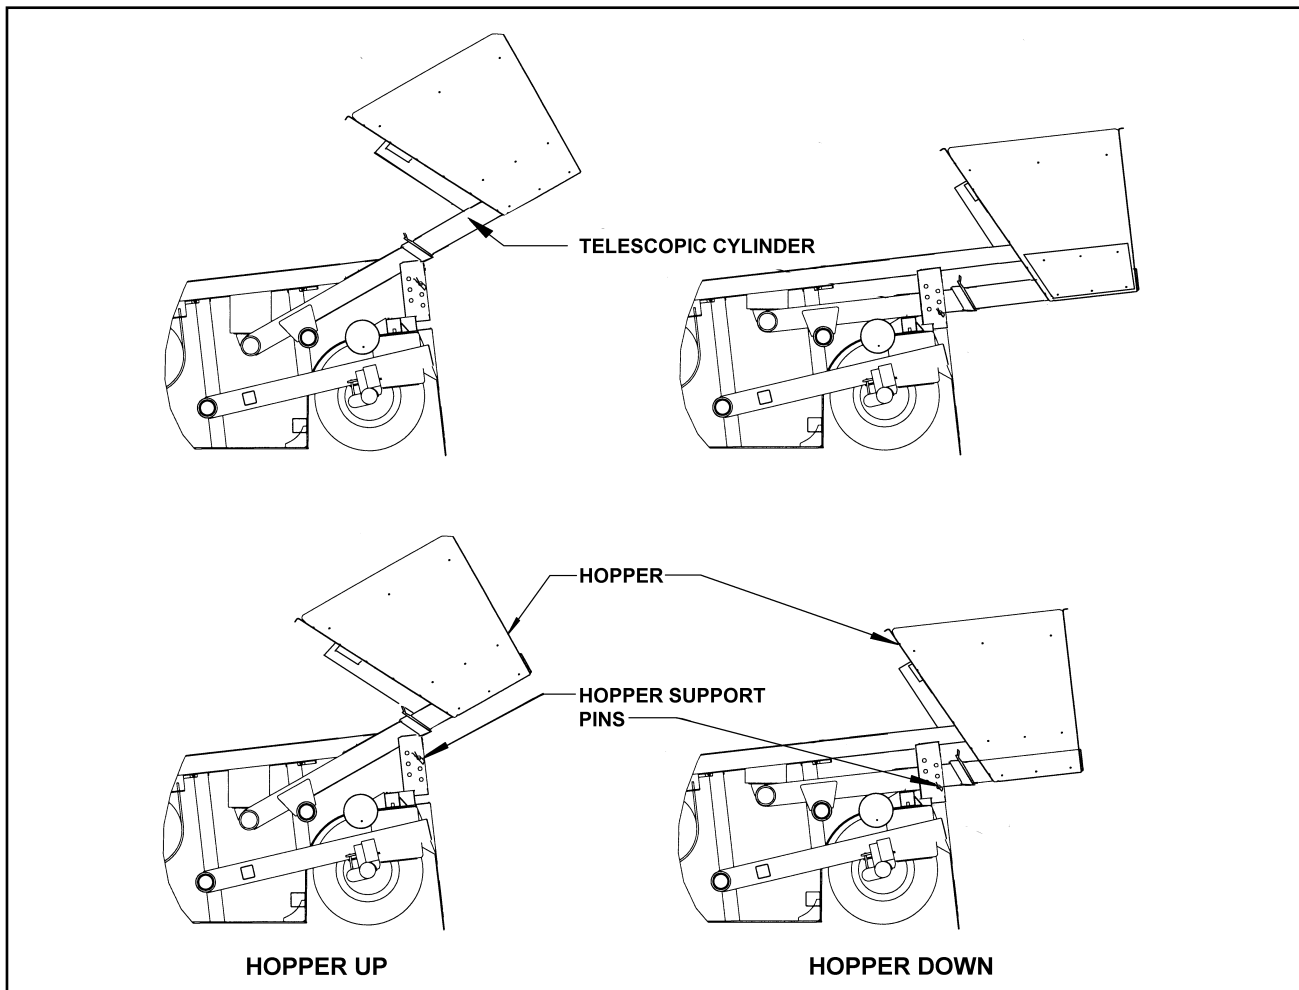

Figure 3-4 Hopper Operation
b. Install the hopper support pins on both sides in the holes directly below the hopper supports **(See Figure 3-4)**.
c. Lower the hopper by pushing DOWN on the valve handle until the hopper is resting on the support pins. It is important to use the hopper support pins to stabilize the hopper and to avoid putting any unnecessary stress on the hopper or hopper air springs **(See Figure 3-4)**.